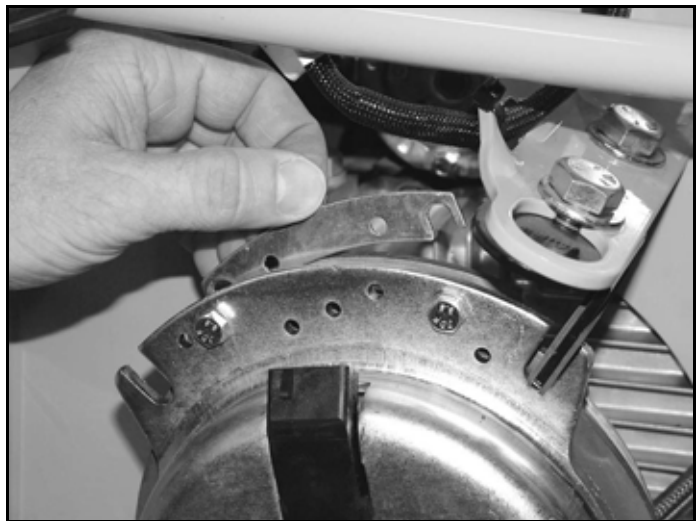

Figure 4-30
The air gap is only adjustable on clutches that have a removable shim (see Figure 4-30).
2. Using needle nose pliers, or by hand, take hold of the tab and remove shim (do not discard shim until proper clutch function has been confirmed). Figure 4-30